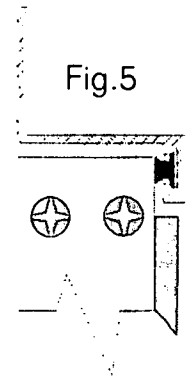

Fig. 5
5) **Astragal:** measure from header to floor deduct 1/8" then cut off bottom. Notch felt lip at top (Fig 5) of astragal to fit under header. Install flush bolts then fit astragal onto stationary door, adjust to give an even reveal between active door & astragal. Fasten off screws 5 # 8 x 1/2" on each side of astragal. With door in closed position move flush bolt lever & mark where to drill 1/4" hole to accept flush bolt pin. Drill hole check to make sure flush bolt moves without binding.